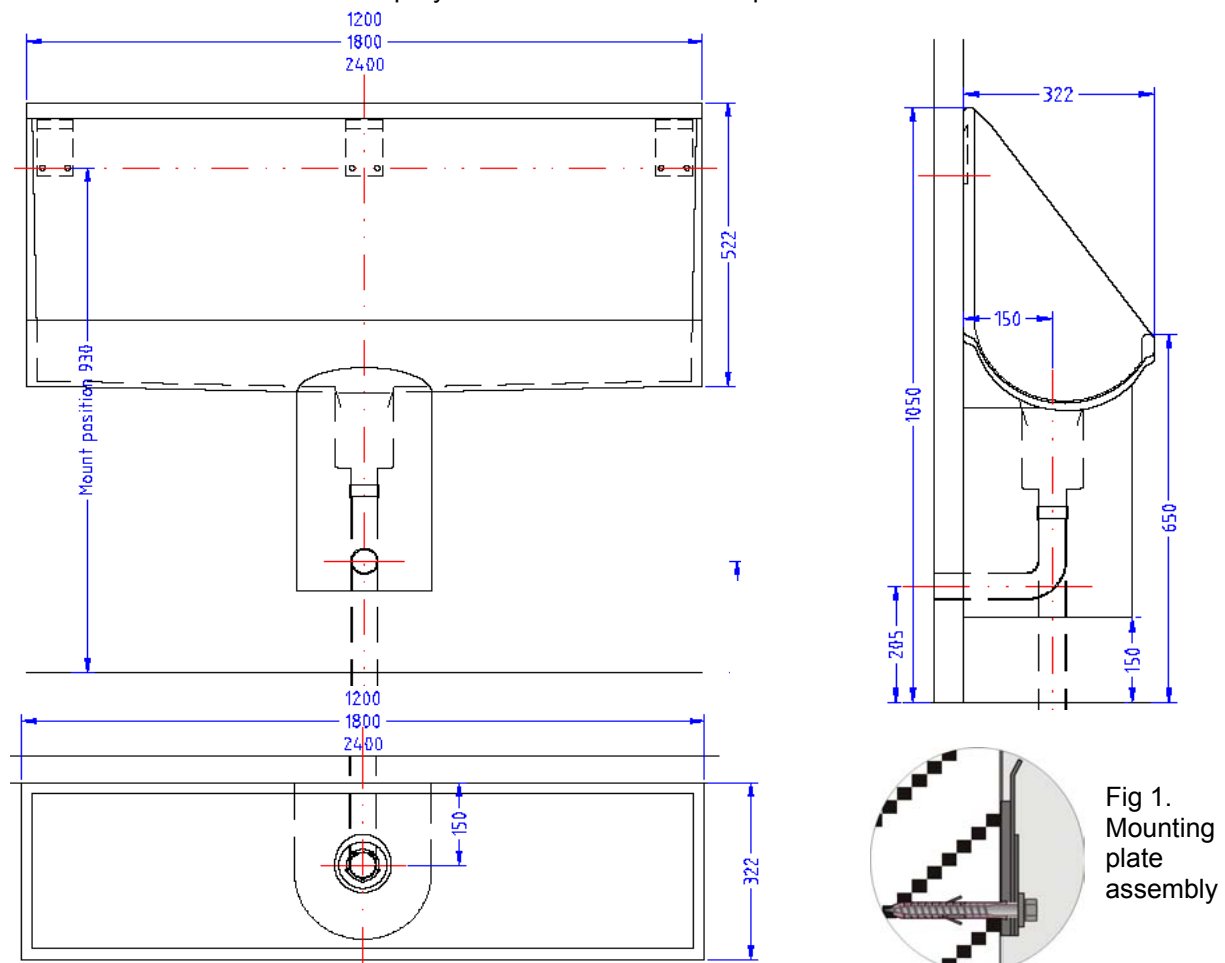

Fig 1.
- Position 4 mounting brackets 930mm from floor and at 570mm centres either side of centerline of urinal. See fig1 below for detail.